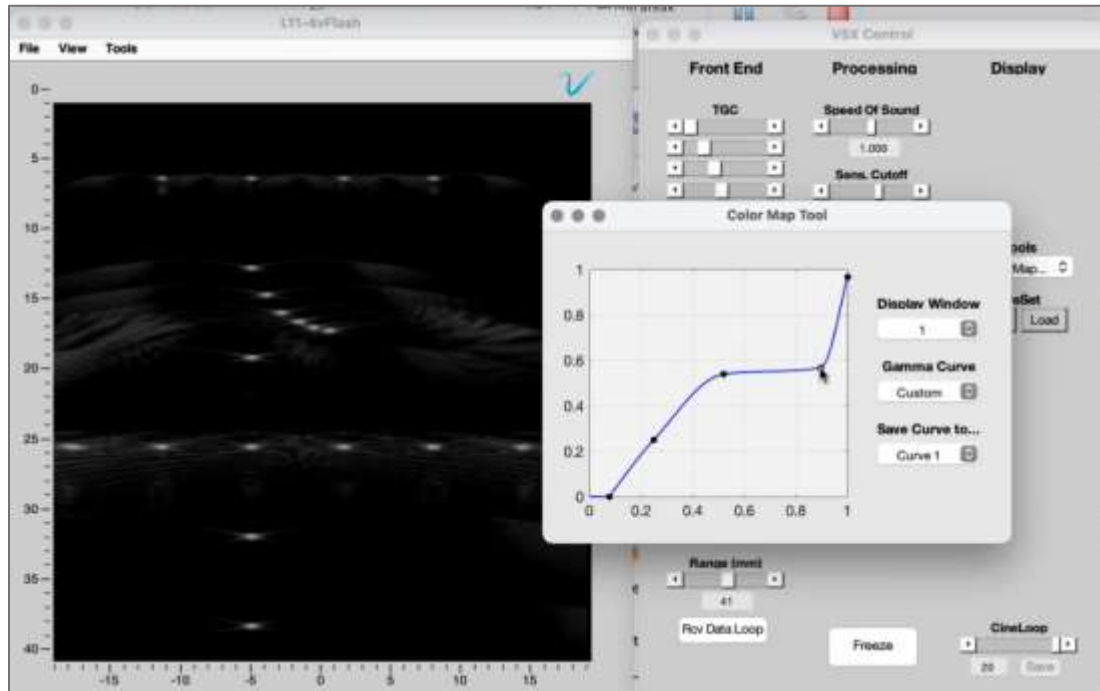

Figure 4: Customize a Gamma curve
4. From the Display Window drop-down menu, select the number of display windows that need to be adjusted. For example, in Figure 4, the number of display windows is 1.